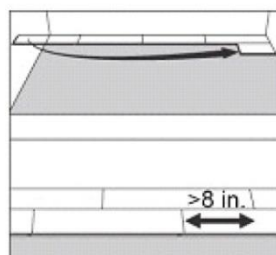

Figure 2
- Position the first board in place by angling it up slightly, pushing forward and interlocking the side tongue. (Figure 2) Slide the board to the left as necessary to align the edges of the end joint.